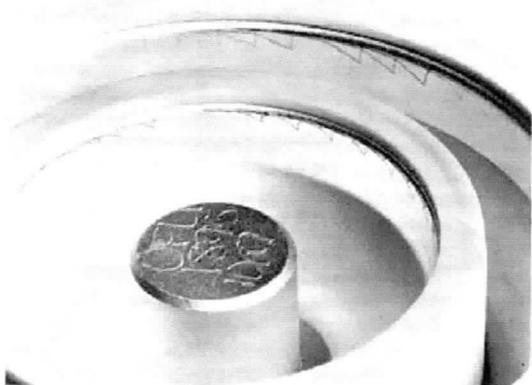

Figure 4
With the tube removed, the socket should be blown or wiped clean and carefully inspected. Any discoloration in the socket finger stock caused by overheating could contribute to early tube failure. A finger stock that loses its temper through prolonged operation at high temperature will no longer make contact to the tube elements (Figure 4). A well-maintained socket will score the tube contacts when the tube is inserted. If all fingers are not making contact, more current flows through fewer contacting fingers, causing additional overheating and possible burnout (Figure 5).
*Fig. 4. Minute scoring in base contact rings indicates that socket finger stock has made good, low-resistance contact to tube elements. Well-maintained socket will score the tube contacts when tube is inserted. If all fingers do not make contact, more current will flow through fewer contact fingers, causing additional overheating and burning, as shown in Fig. 5.*